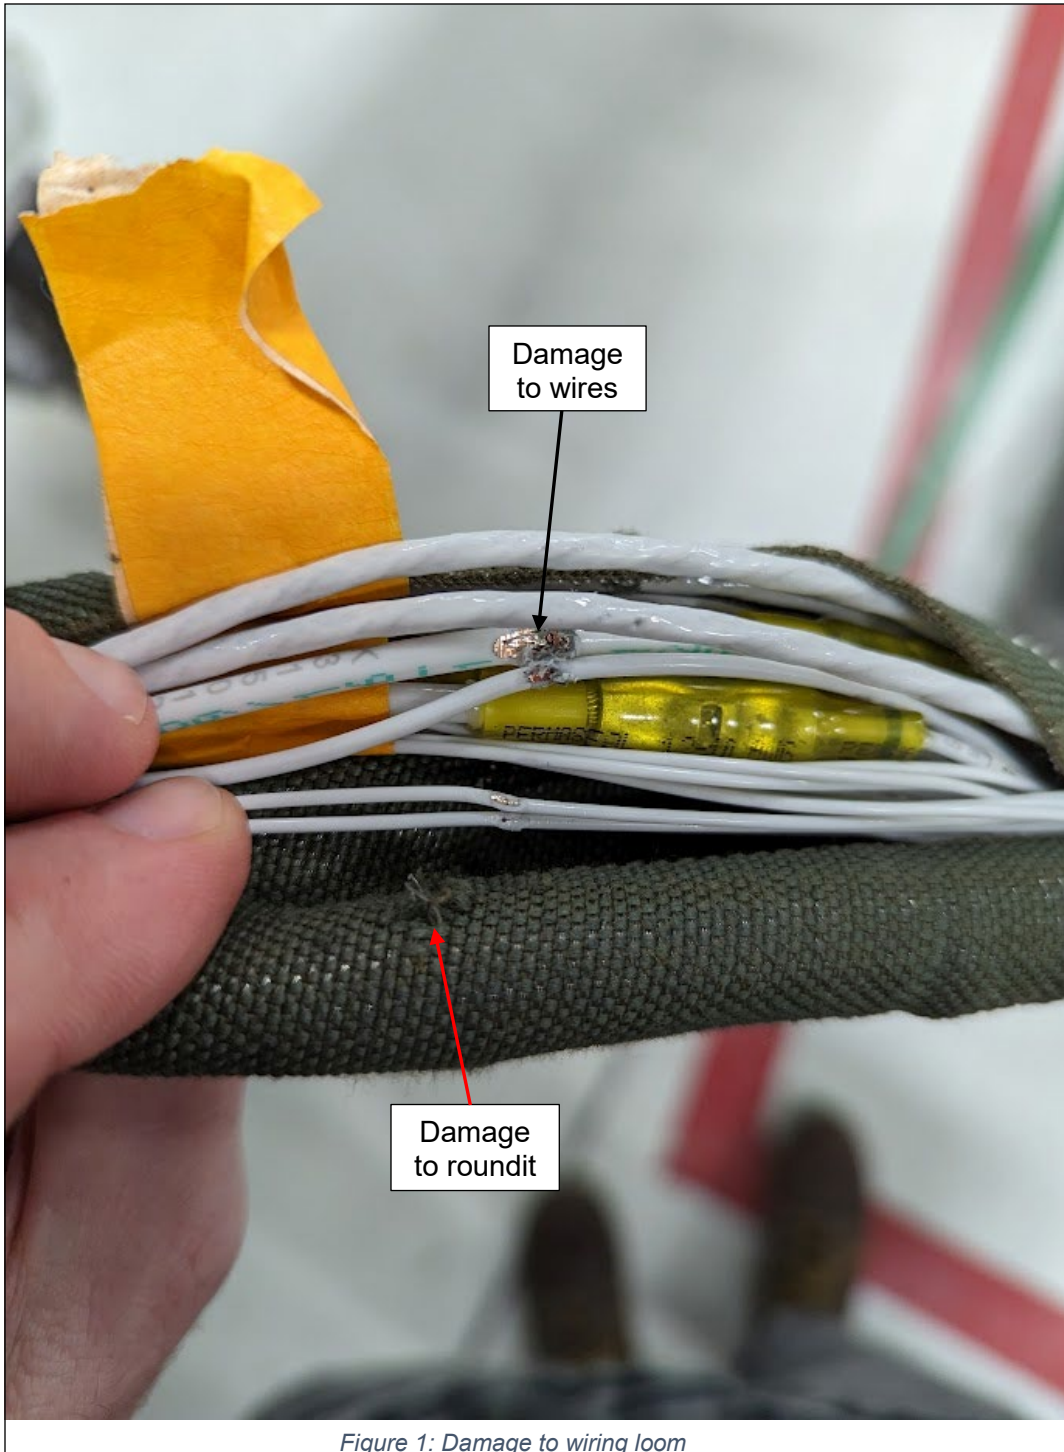

Figure 1: Damage to wiring loom
9. Inspect wires and roundit for physical damage (see Figure 1 for example, see Figure 2 for location).